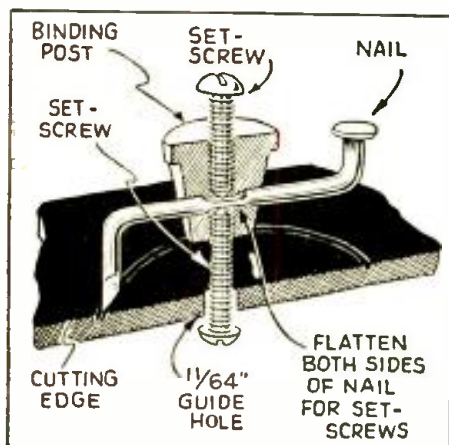

Fig. 8. Improved fly-cutter.
**INEXPENSIVE, ADJUSTABLE HOLE-CUTTER.** Desiring to mount some test meters of different sizes on an instrument panel, the cutter shown in Fig. 8 was devised out of junk box parts. It is inexpensive, yet remarkably efficient, if used with a little care for most panels, except metal.